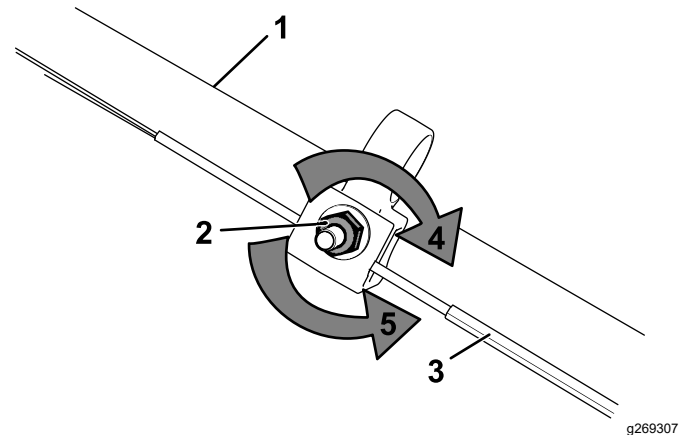

Figure 35
1. Turn the adjustment nut counterclockwise to loosen the cable adjustment (Figure 35).
2. Adjust the tension on the cable (Figure 35) by pulling it back or pushing it forward and holding that position.